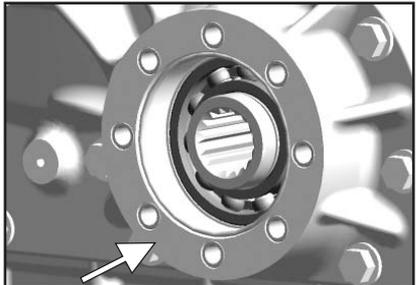

Fig. 3
- a. Install O-Ring, furnished with P.T.O., on transmission mounting surface **(Fig. 3)**. To prevent damage to O-Ring make sure it is installed in groove as shown.